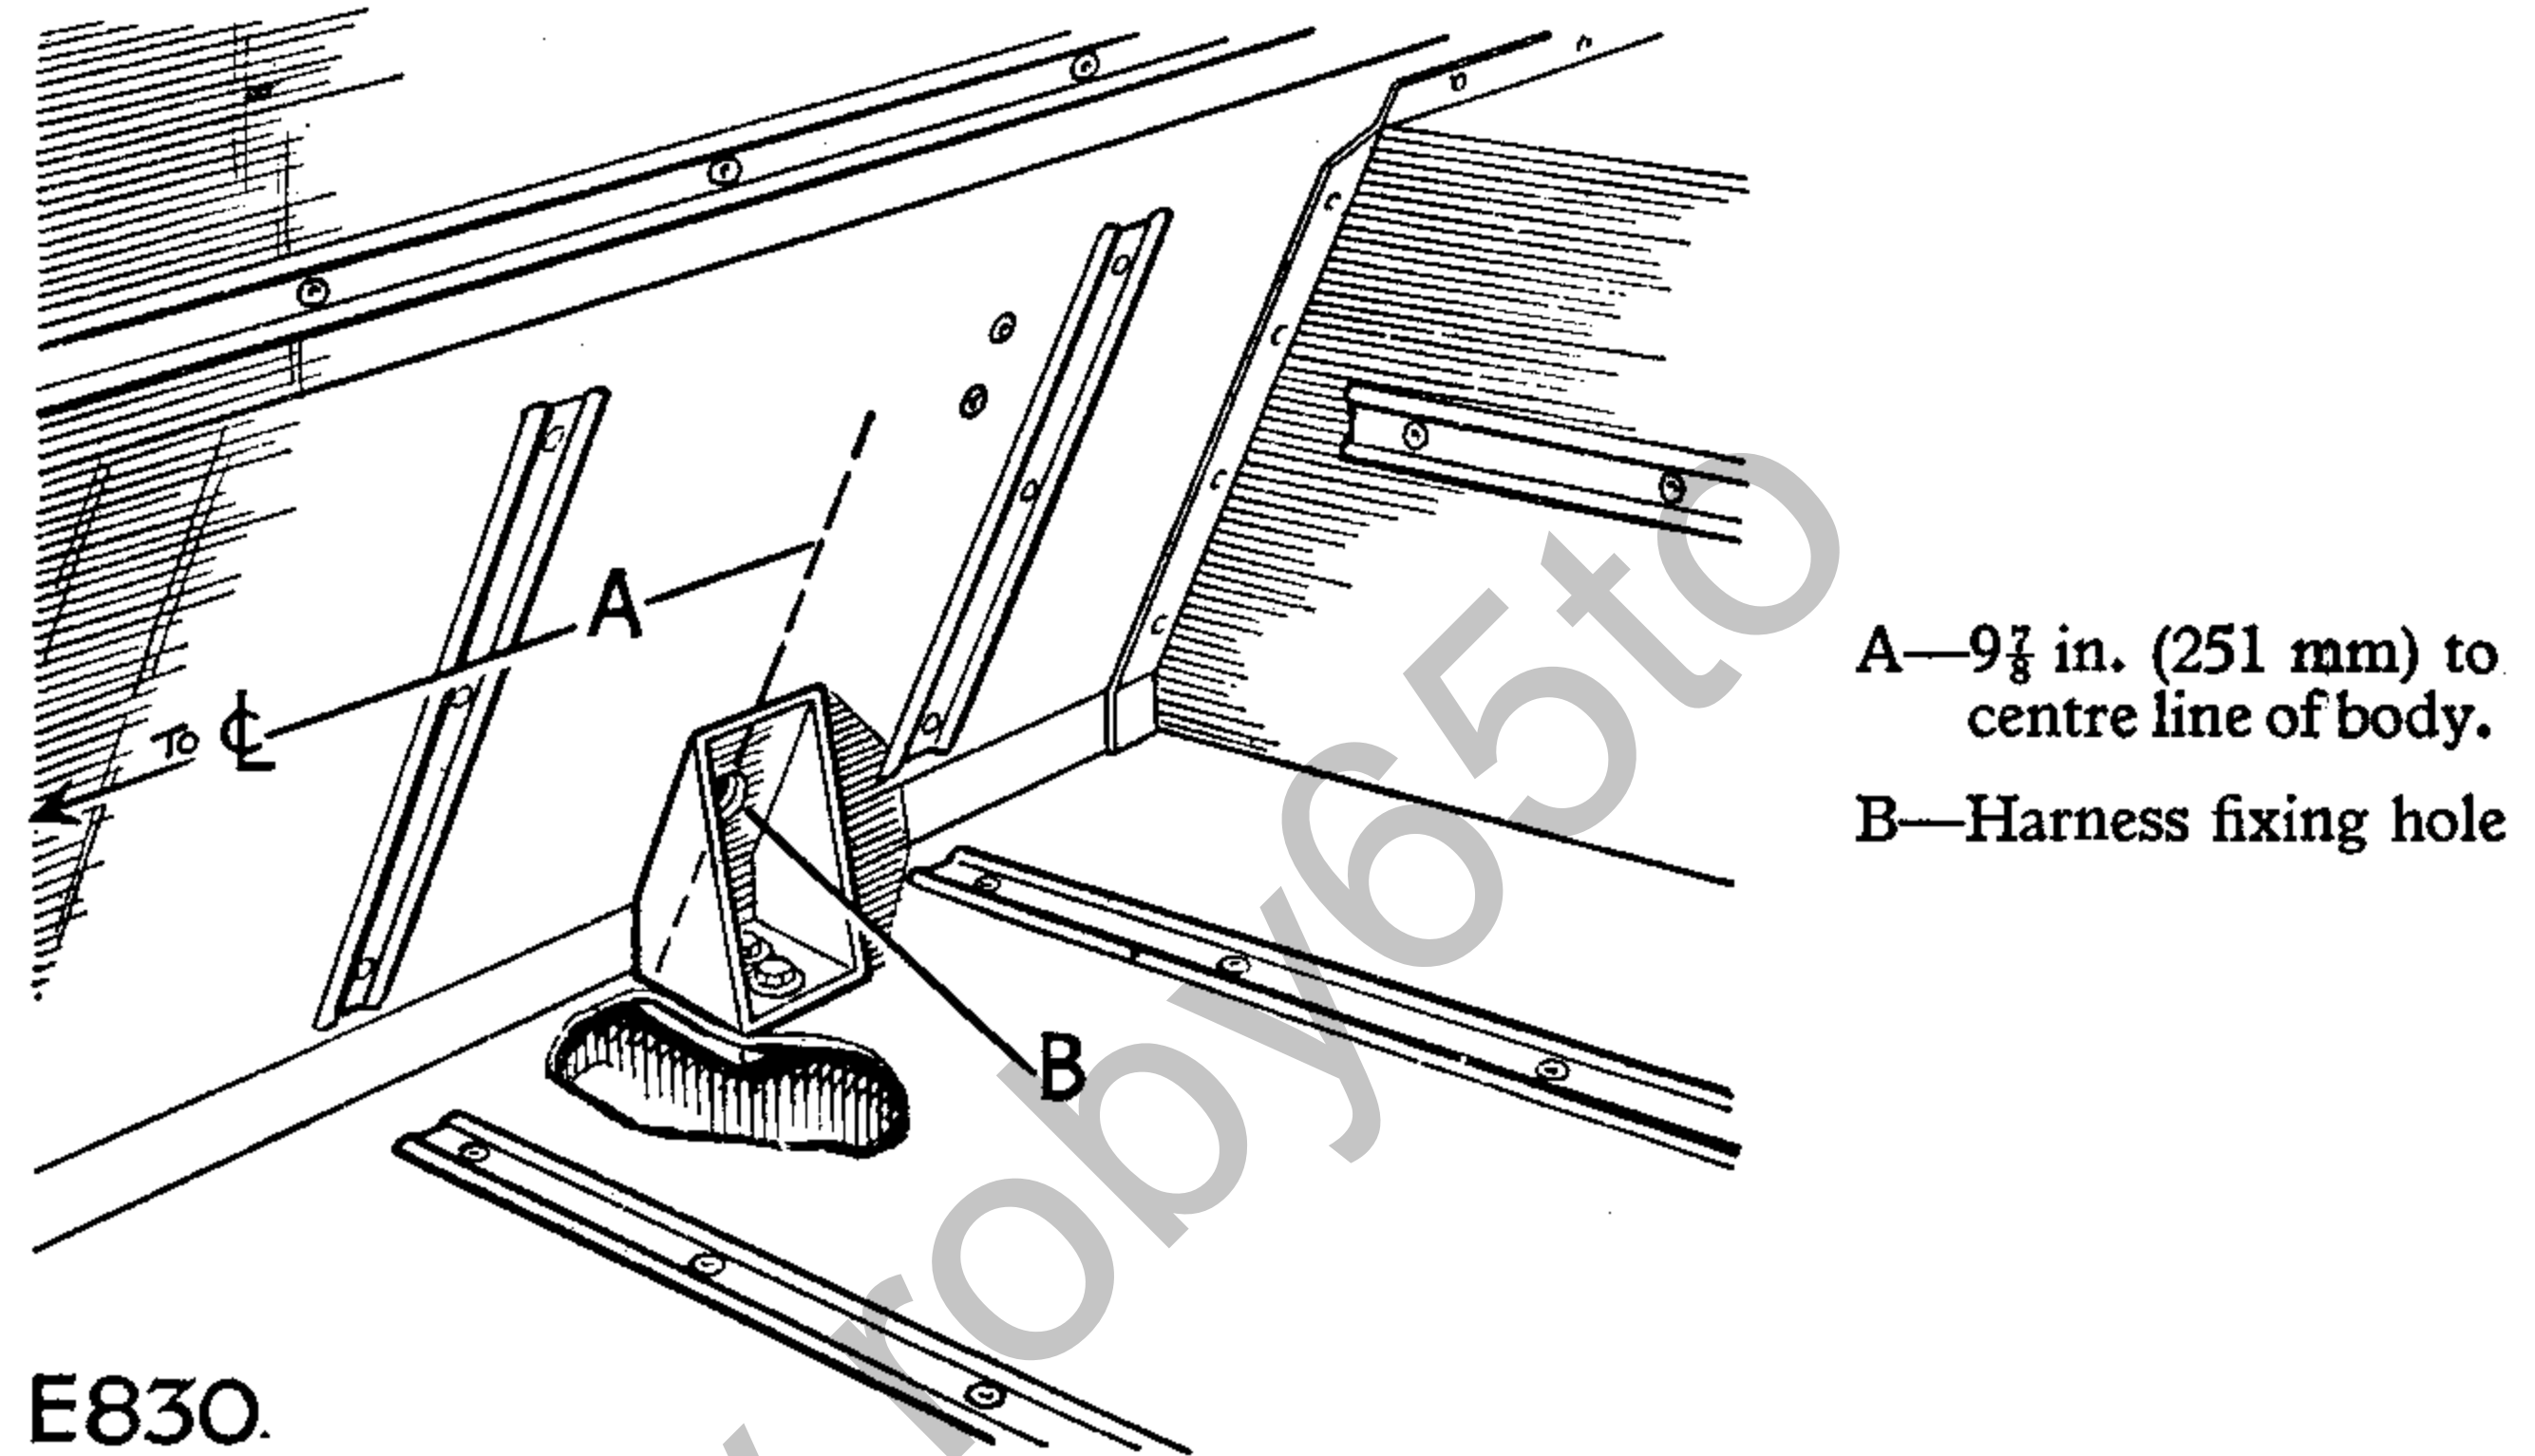

Fig. 11. Bulkhead gusset in position.
5. Mark off a centre line of vehicle on body floor, adjacent to seat bulkhead—then mark off a position $9\frac{7}{8}$ in. (251 mm) from the centre line toward body side, as shown in Fig. 11.